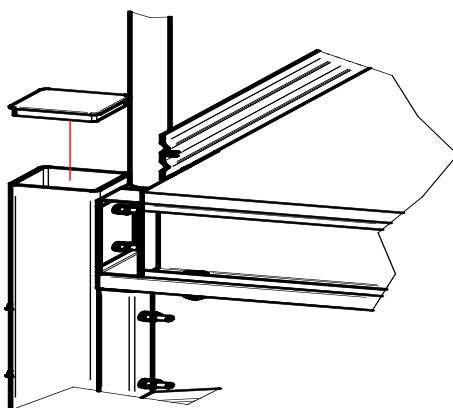

Fig. 22. Mounting the plugs
- using the connector A-02 and A-03 (Fig. 22).